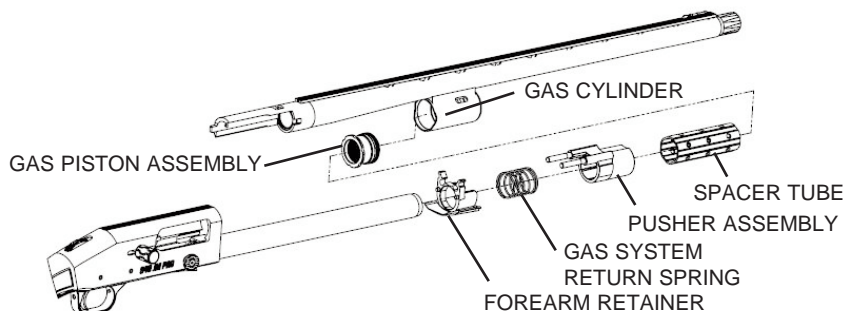

Figure 19
1. Reinsert the gas piston assembly into the gas cylinder portion of the barrel (Figure 19).
2. Install the forearm retainer, gas system return spring, pusher assembly and spacer tube back onto the magazine tube (Figure 19).